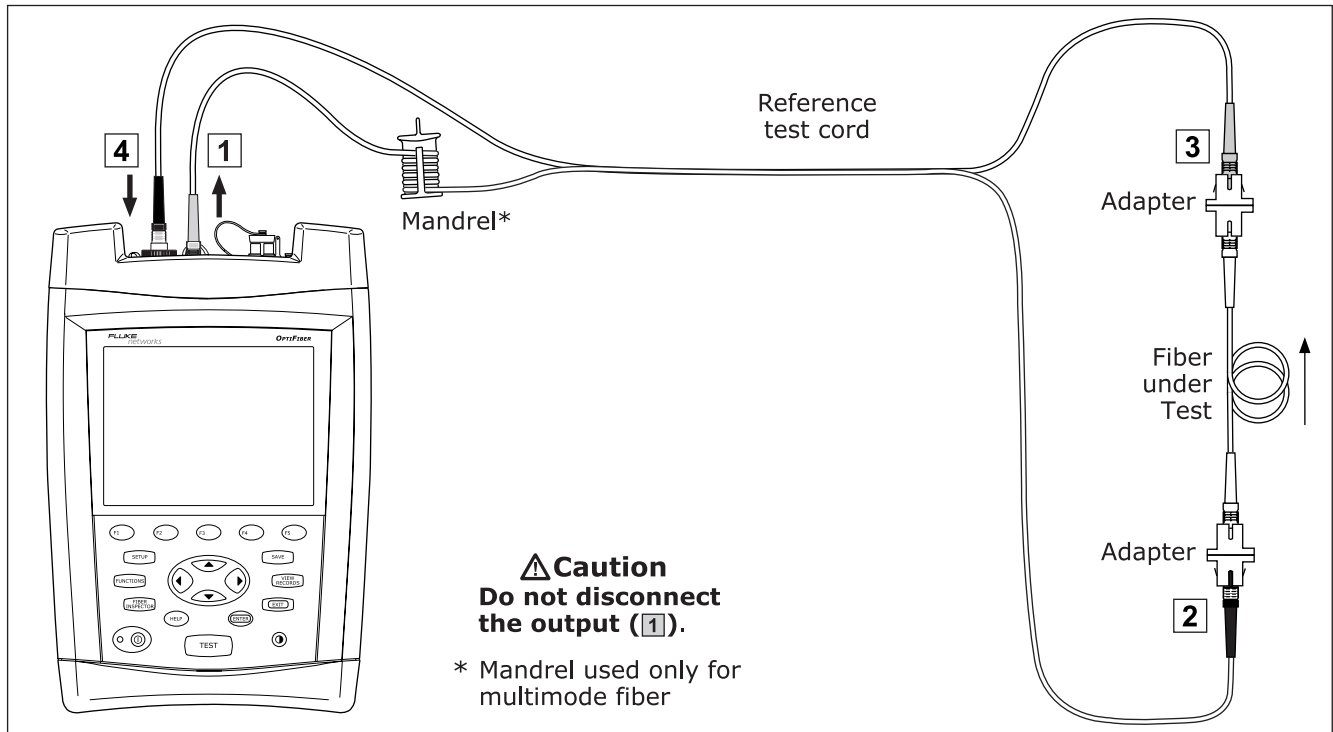

Figure 29. Loopback Mode Test Connections
- 9** Clean the connectors on the cabling to be tested; then connect the reference test cords and the short patch cord to the cabling, as shown in Figure 29.